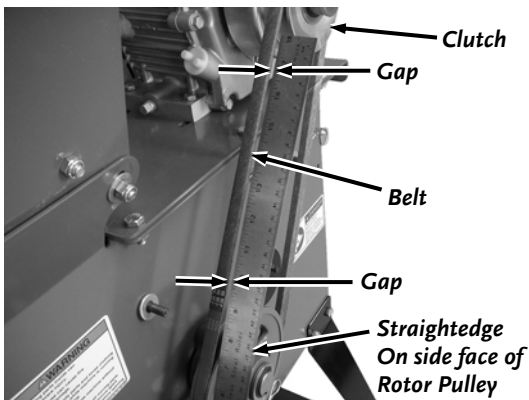

Figure 17
2. Place one end of a Straight Edge across the face of the Rotor Pulley and the other end near (but not touching) the Clutch (**Figure 17**).